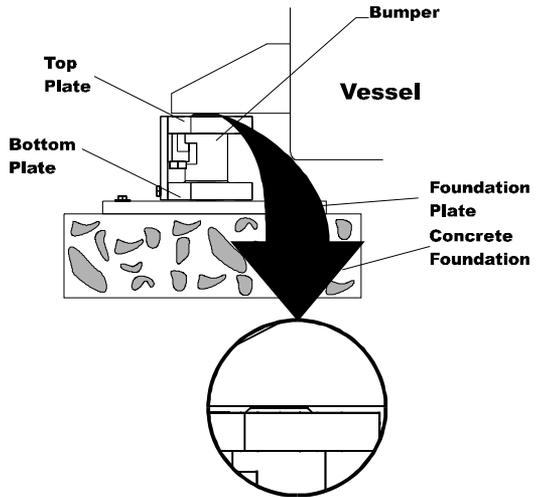

FIG. 12: LOWERING VESSEL SUPPORT PLATE ONTO THE LOAD POINT ASSEMBLY
- As you lower the vessel load carrier plate onto the top plate of the load point assembly, make sure that all the bolt holes are aligned center to center. Be sure that the load carrier plate is resting on the bumper. (See Fig. 12)
- Step 8. When all the top plate bolt holes line up. Use a socket or box end wrench and remove the hex bolt that fastens the shipping plate to the top plate. (See Fig. 12) Keep the bolt in a safe place. You will need it when you install the ground strap.